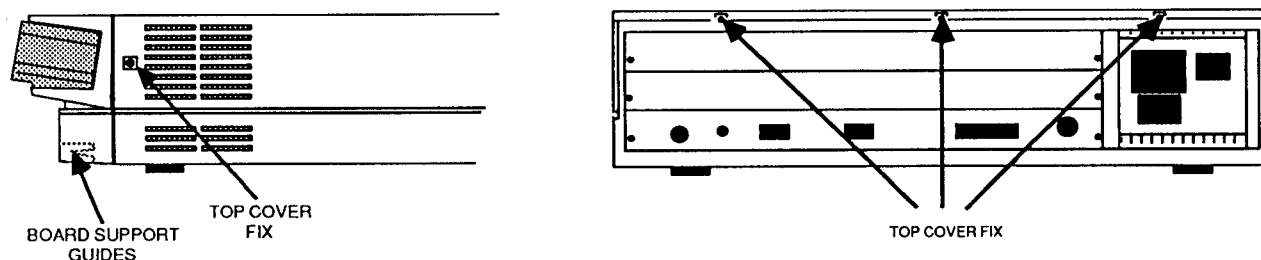

FIG. 1 REMOVING THE TOP COVER
3. Remove the top cover as follows (see fig. 1):